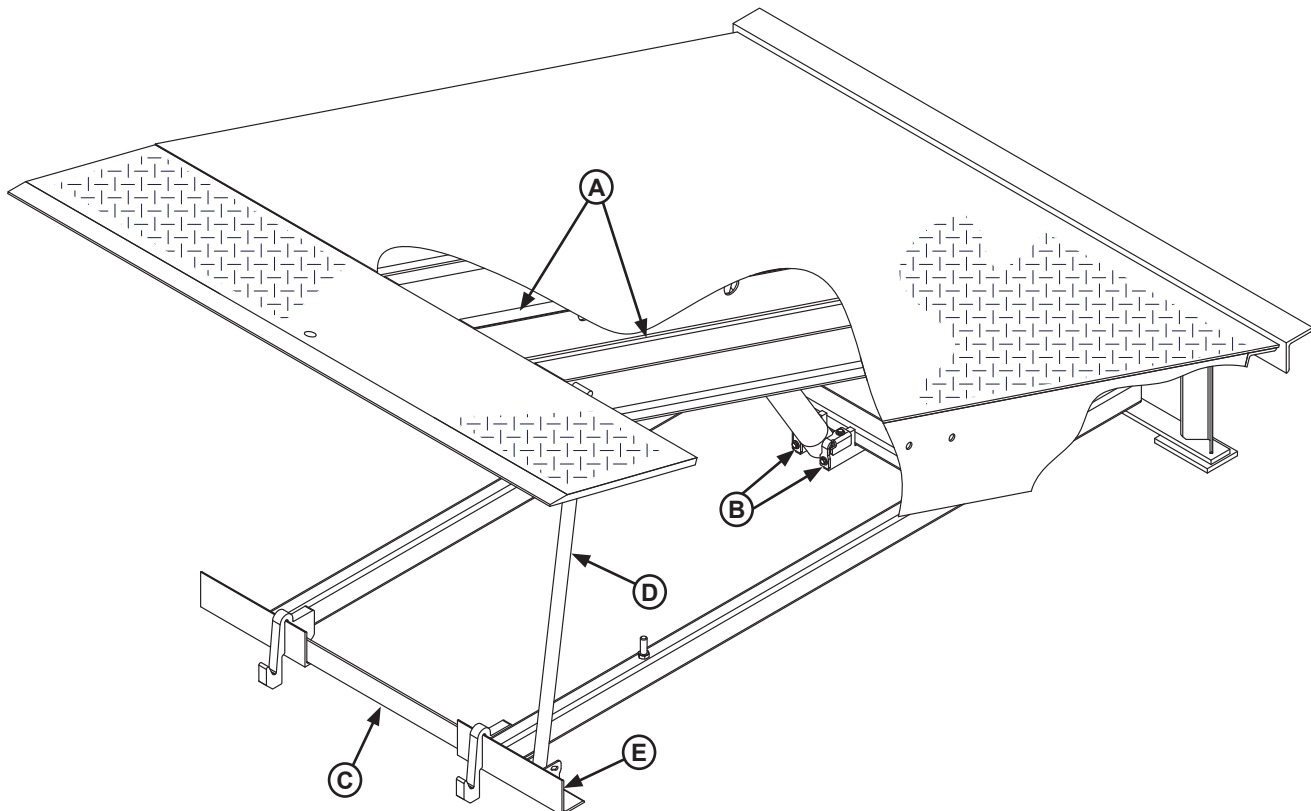
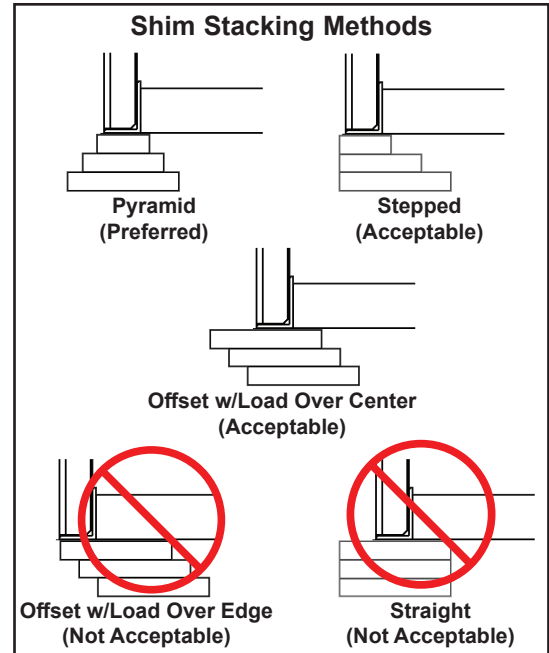

Figure 12
Figure 13
17. Shim and weld the maintenance prop (Figure 12):
a. Install shims under maintenance prop (D) where prop attaches to leveler frame (E). Make sure prop is solidly shimmed.
b. Raise maintenance prop (D) to the service (upright) position and lock prop in this position using an OSHA approved locking device.
18. Install shims at locations (B and E) using an appropriate shimming method (see Figure 13). Both platform cylinder trunnions must be solidly shimmed the entire length of the trunnion. Make sure the trunnions are level from side-to-side as well as from front-to-back.